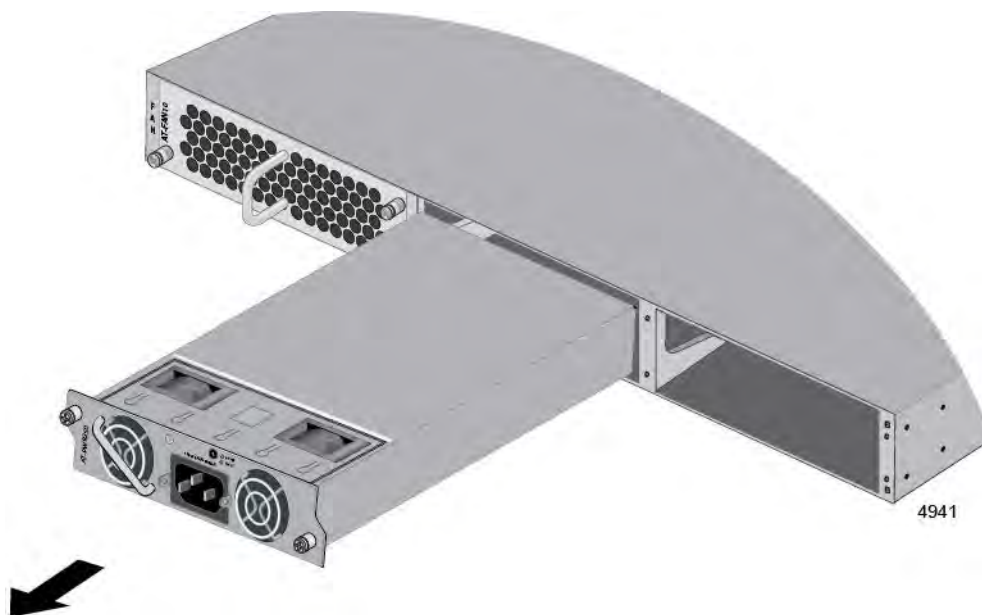

Figure 94. Removing a Power Supply
4. Carefully slide the power supply from the switch. Refer to Figure 94 on page 224.